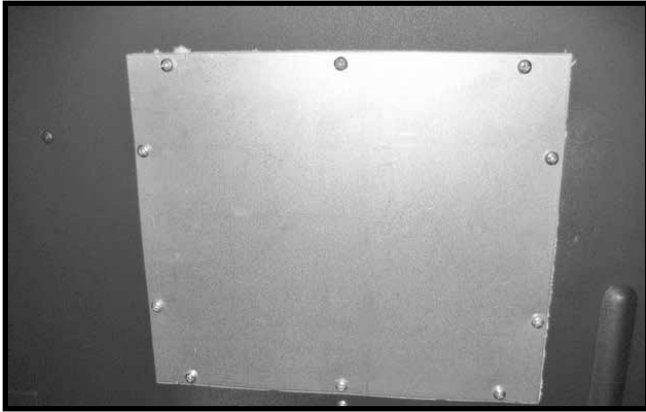

Figure 25: Access panel.
3. Remove access panel from right hand side of the firebox (Figure 25).